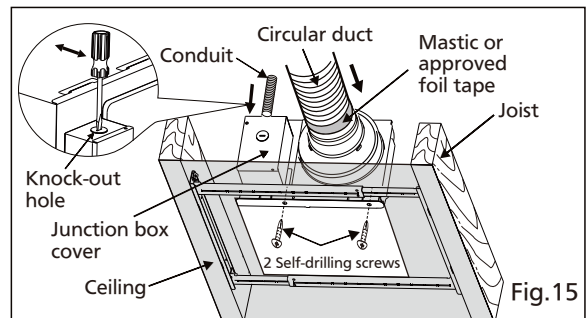

Fig.15
3. Install the adaptor to Flex-Z Fast™ bracket by using 2 self-drilling screws. (Fig.15)